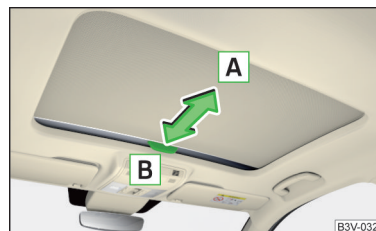

Fig. 64
- ▶ To **open**, pull the handle in the direction of arrow **A** » Fig. 64.